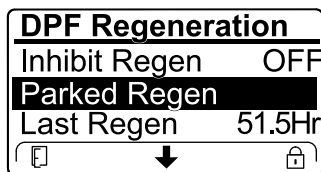

Figure 59
- If the engine computer requests a recovery regeneration or is processing a recovery regeneration and you scroll down to the PARKED REGEN option, parked regeneration locks and the lock icon (Figure 59) appears in the lower right corner of the InfoCenter.